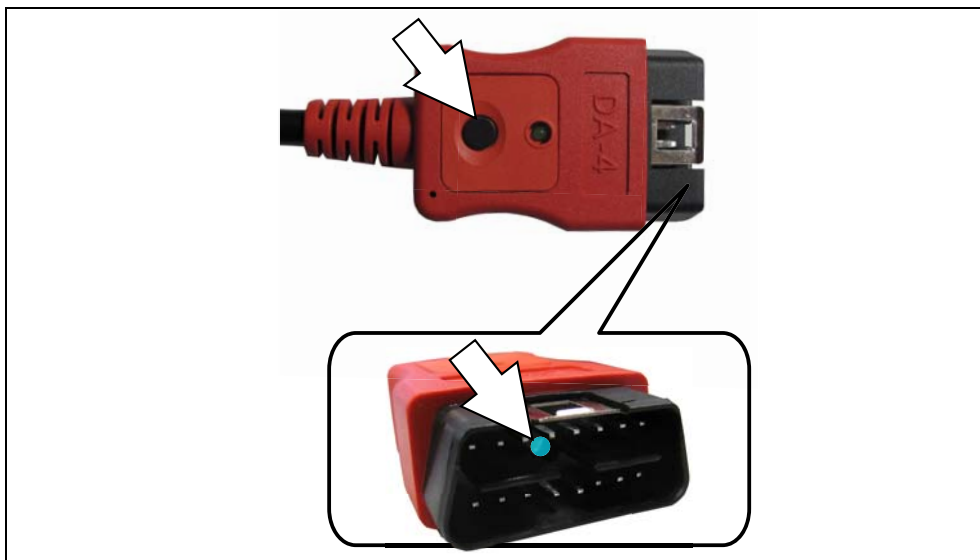

Figure 4-3 DA-4 data cable LED flashlight
The supplied 9 ft. (2.7 m) DA-4 data cable, includes an LED flashlight on the vehicle DLC connector end (Figure 4-3). The LED flashlight is powered by the diagnostic tool battery.
- If needed, press the LED flashlight button switch on the end of the data cable to turn the LED flashlight on (Figure 4-3), and locate the DLC.